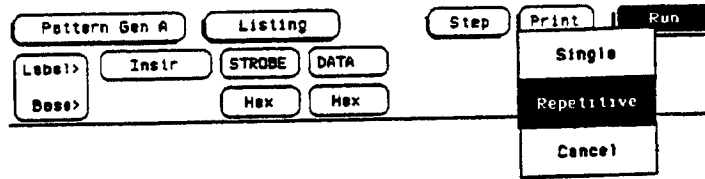

Figure 3-22. Run Repetitive Mode
- l. Touch Run, then drag finger to Repetitive as shown in figure 3-22.